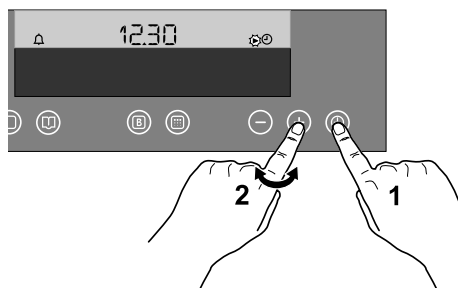

Fig. 2
1. Touch the "TimeFunction Control" ⌚. While symbol ► flashes near the "Clock Symbol" ⌚, set the current time of day touching controls "—" or "+" (Fig. 2). Once you have set the time, the symbol ► keeps flashing for 5 seconds and then comes off. This means that the setting has been stored in the Electronic Control memory.